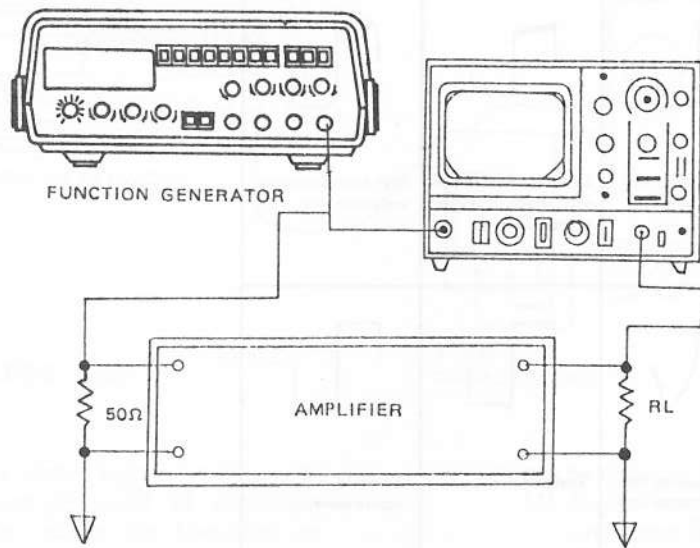

Figure 5
- Using the circuit of Figure 5, the 50Ω connector trim the oscillation effect of square wave.